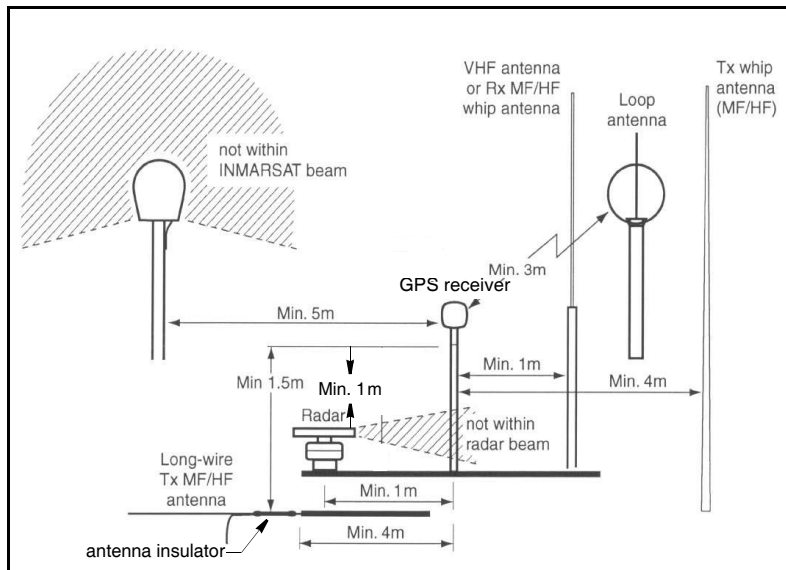

Figure 1. Minimum distance from GPS receiver
- Mount away from any VHF radio, satellite, radar, or other antennas to avoid mutual interference (see Figure 1).